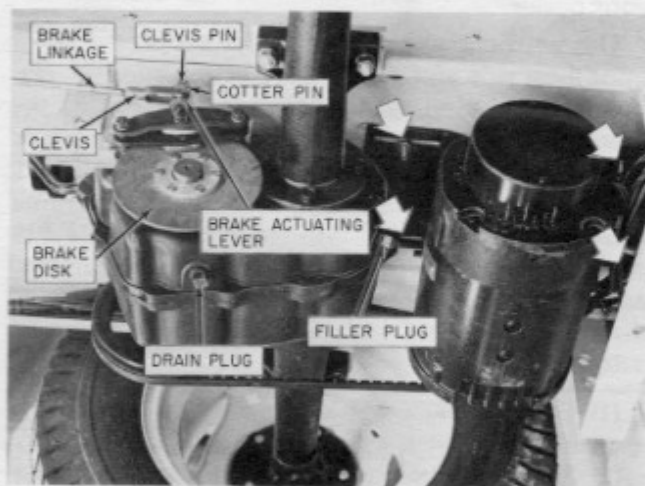

Figure 13. Brake, Transaxle, and Motor Mounting
After 100 operating hours, the transaxle filler plug should be removed and the fluid level checked (See Figure 13). The oil level should be to the bottom edge of the filler hole. If necessary, replenish with approved axle fluid only; i.e., SAE EP90.
1. Loosen four carriage bolts holding motor plate. Insert a 1/4-inch wedge between the rear edge of the motor plate and the frame, and retighten bolts finger tight (See Figure 13).
A fully depressed brake pedal or an engaged parking brake should prevent the tractor from rolling on average hillsides. If the brake does not perform satisfactorily, the following adjustment may be made: (See Figure 13.)